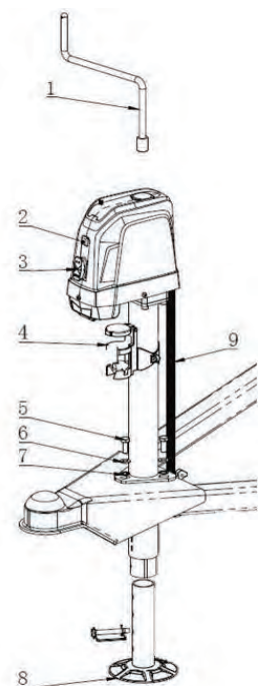

Figure 1
8. Insert the electric jack into the jack hole and aligning the bolt holes so the motor housing is facing forward as show in Figure 1.